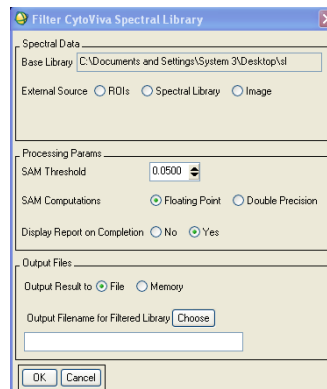

Figure 3. Filter CytoViva Spectral Library box
2. The Filter CytoViva Spectral Library box appears (see Figure 3)
3. In the Filter CytoViva Spectral Library box (See Figure 3), starting at the top the input file name is shown in the Base Library box.